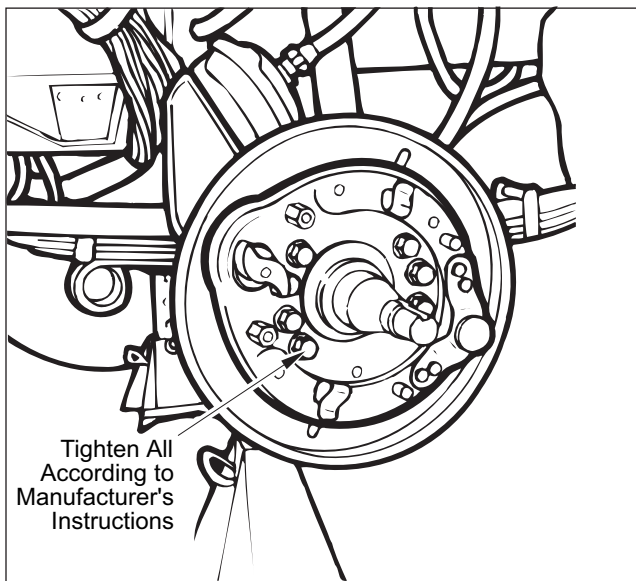

Figure 47. Installing Spider Mounting Hardware
4. Sequentially torque nuts according to manufacturer's specifications, Refer to Figure 47.